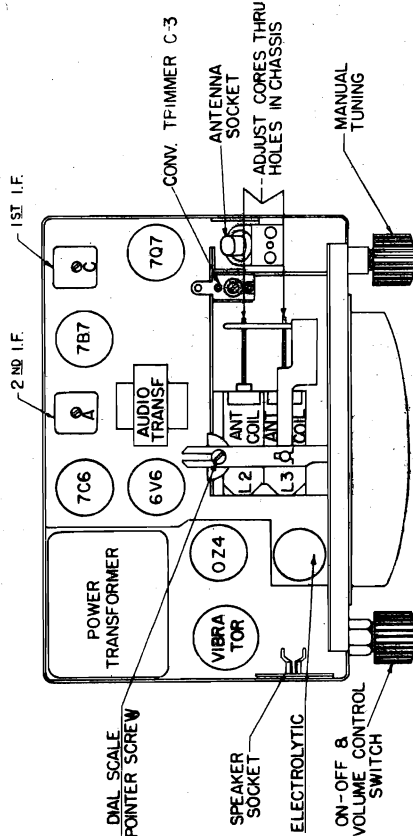

Fig. 7. Top View of Chassis
- 7—Adjust converter trimmer C-3 and antenna trimmer C-1 (Fig. 7 and 8) for maximum output reading.
- 11—Adjust the two antenna cores L2 and L3 (Fig. 7) for maximum output reading. Do not adjust trimmers.
- 4—Adjust I.F. slugs A, B, C and D (Figs. 7 and 8), in the order named for maximum output. Repeat the operation to assure accurate alignment.
- 7—Adjust converter trimmer C-3 (Fig. 7) and Ant. trimmer C-1 (Fig. 8) for maximum response.
- 8—If dial calibration is off after making above adjustments, a correction can be made by turning eccentric screw at fulcrum of dial pointer. (Fig. 7.)